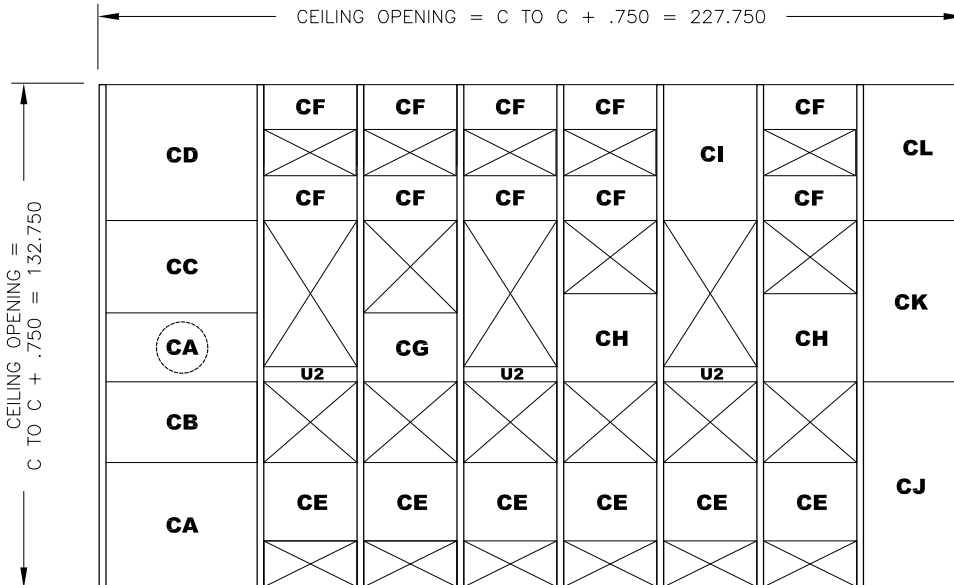

Figure 21. Sample Job Specific Submittal
Step 18: Identify ceiling panels that require field cutting for equipment or light booms (panels will have dotted circles shown on submittal drawings, **Figure 21**). Refer to equipment/light manufacturer's instructions for size of hole, mark on the back of the ceiling panel, and cut accordingly.